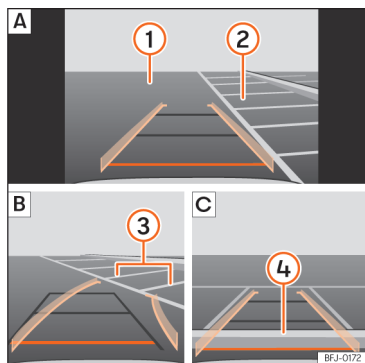

Fig. 144 Display on the infotainment system screen: parking with the reverse assistant.
Key to the >>> **Fig. 144:**
- Stop the vehicle in front of the parking space >>> **Fig. 144** **2** **A**.